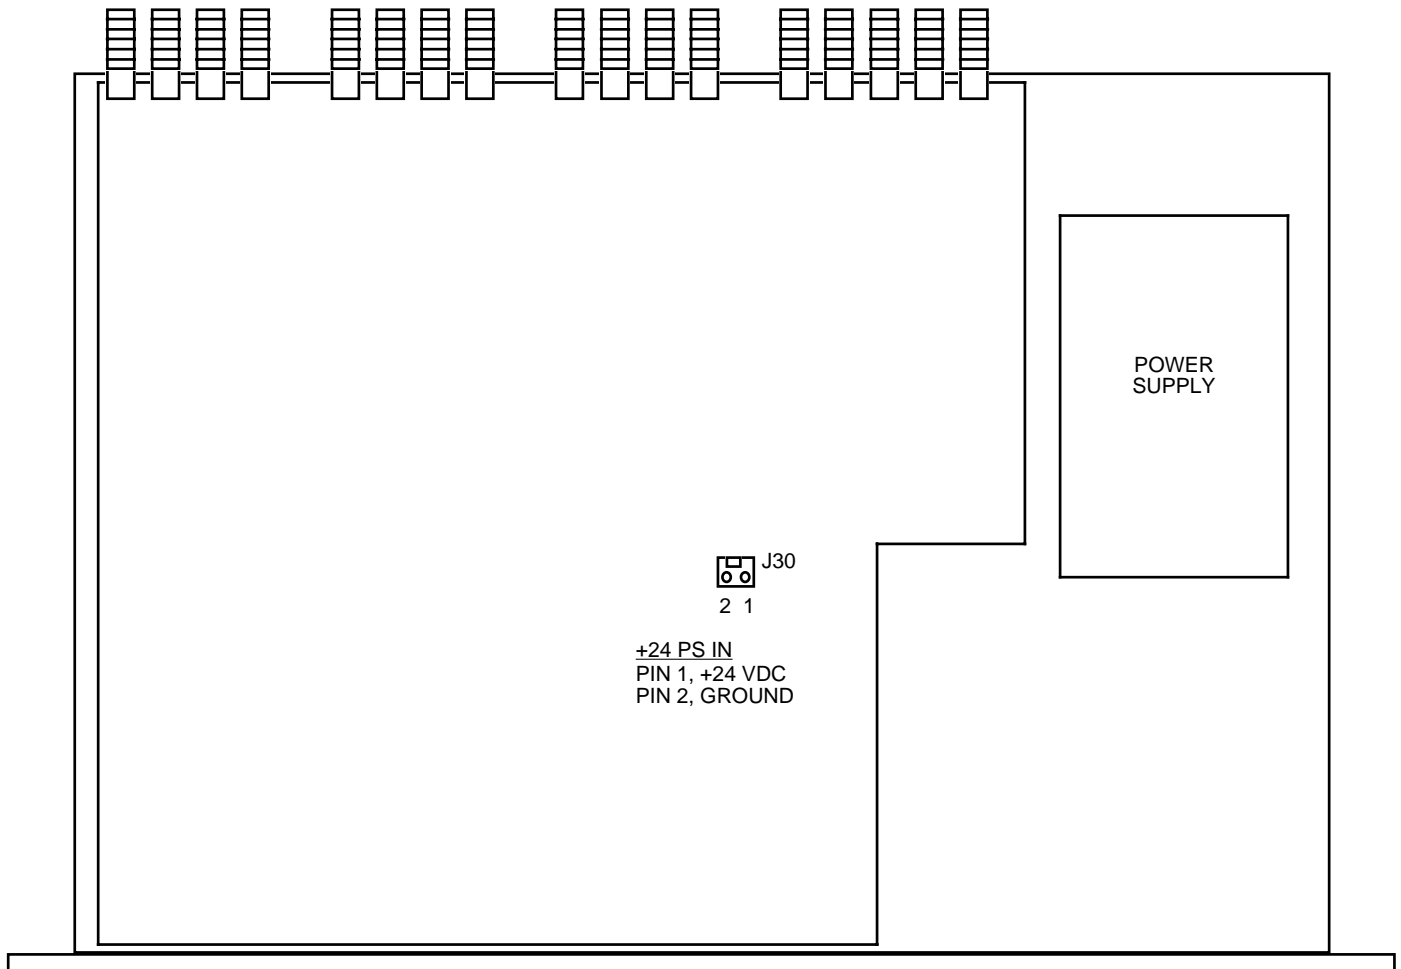

FIGURE 2.0 1584-116S MECHANICAL ASSEMBLY
2.1 Mechanical - The 1584-116S consists of one RF printed circuit board (PCB) housed in a 1 RU (1 3/4 inch high by 12 inch deep) chassis. A switching, +24 VDC power supply provides power. Connectors are type F, female for the RF connections (BNC, female option -B or -D). The 1584-116S can be secured to a rack using the 4 holes on the front panel. Figure 2.0 shows how the 1584-116S is assembled. J30 connects the DC voltage from the power supplies to the PCB as shown.